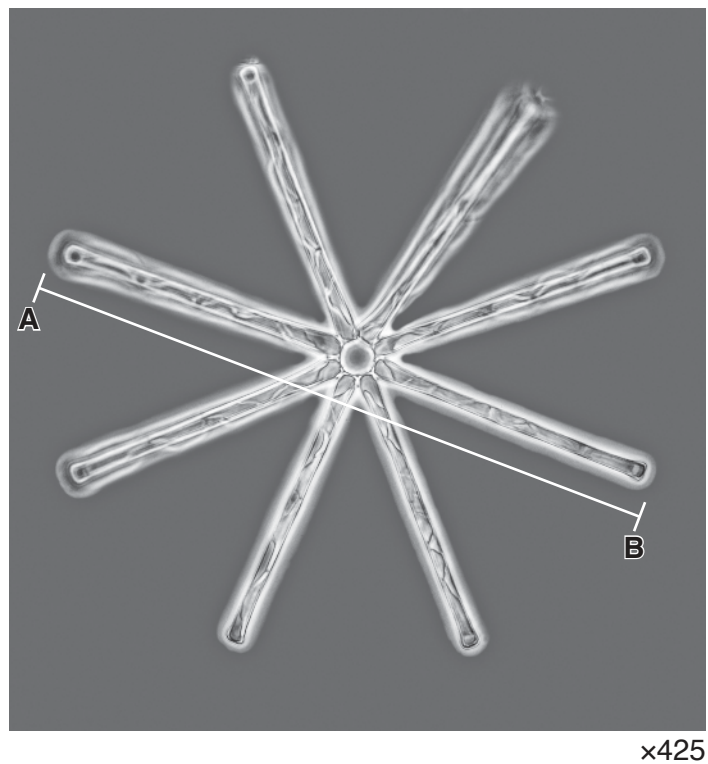

Fig. 2.1
- 2 Fig. 2.1 shows *Asterionella*, which are microscopic algae that live in fresh water.
- (ii)** Measure the length of the line **AB** in Fig. 2.1. Include the unit.
Use the formula to calculate the actual diameter of the algae shown in Fig. 2.1. Include the units.